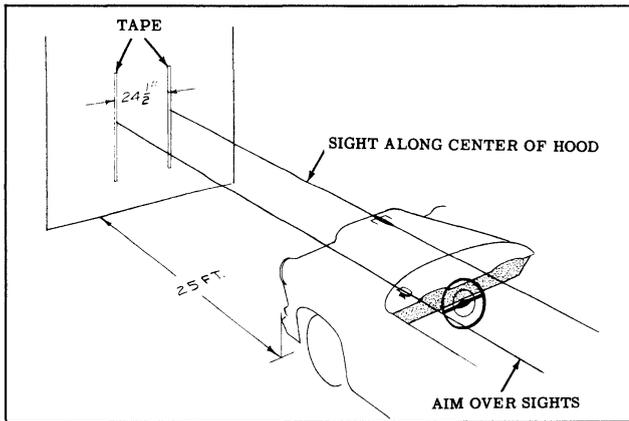

Fig. 13-65 Horizontal Aim
1. Place two pieces of tape or chalk marks 24-1/2" apart on a wall or screen at hood level height. (See Fig. 13-65)